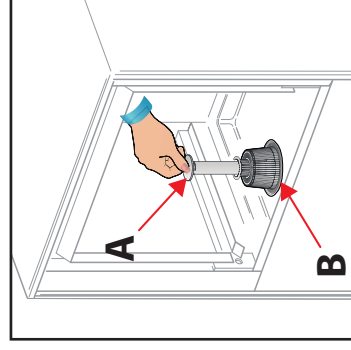

Fig.2
7. Turn the machine to STAND-BY (1). Open the door and remove the overflow pipe (A), situated in the centre of the plastic filter (B) (front left of tank). See Fig.2. The water will then drain from the machine. **DO NOT REMOVE THE GREY PLASTIC FILTER (B) AS THIS STOPS PIPS AND OTHER ITEMS FROM GOING DOWN THE DRAIN.**
8. Firstly, make sure that the water has been drained from the wash tank. Remove any (food) particles from the base of the wash tank and only then remove the plastic filter (B) Fig.2 and clean under running water.